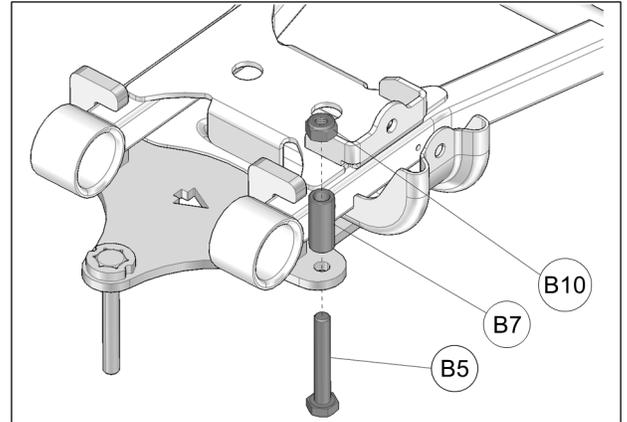

Fig. 7
- Insert the M10x65mm bolt (**B5**) in the bracket hole aligned with C-shaped hooks, install spacer bushing (**B7**) and nut (**B10**) on bolt. Tighten assembly to 50 N•m [37lb•ft] of torque. See Fig. 7